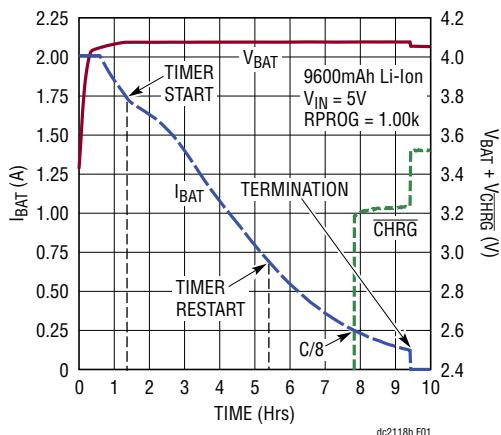

Figure 1. Typical Battery Charge Cycle
6. The CHRG LED will toggle off when the charge current has dropped below 250mA. The timer will continue to run and charging will continue until the timer period ends. Multiple timer periods may be necessary to fully charge a large capacity battery, such as the one used to obtain Figure 1.